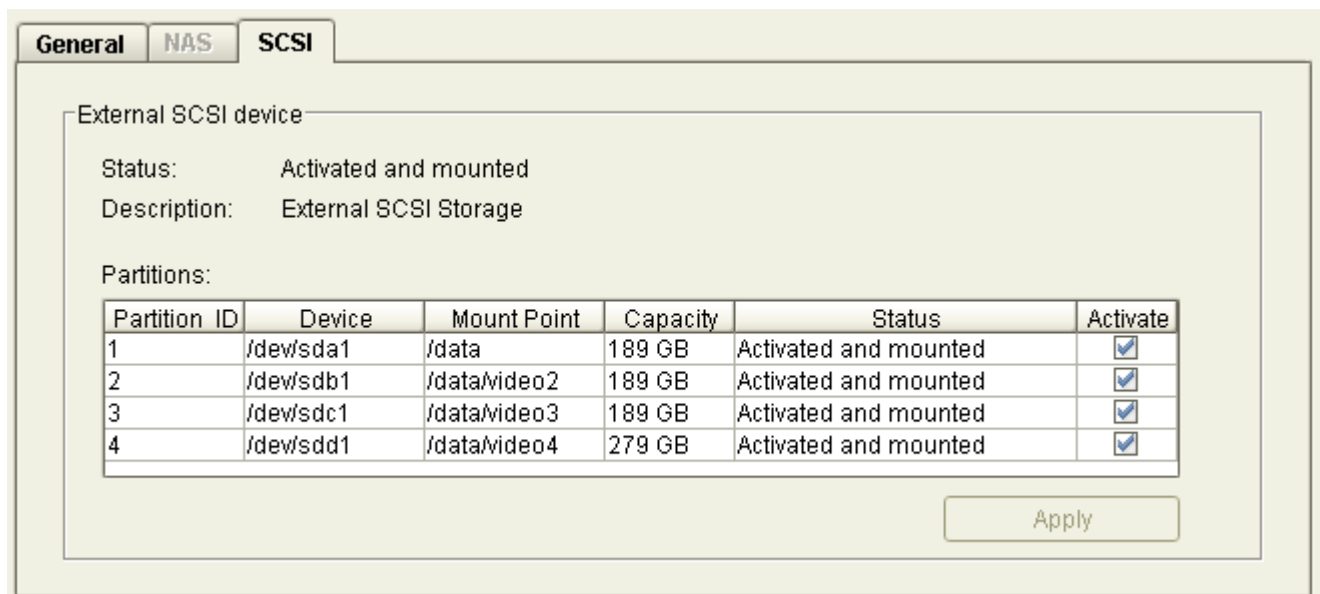

Fig. 57 SCSI device – Status information
4. To activate a partition, mark the appropriate checkbox in the column under **Activate** (see Fig. 57).
5. To deactivate a partition, unmark the appropriate checkbox in the column under **Activate** (see Fig. 57).